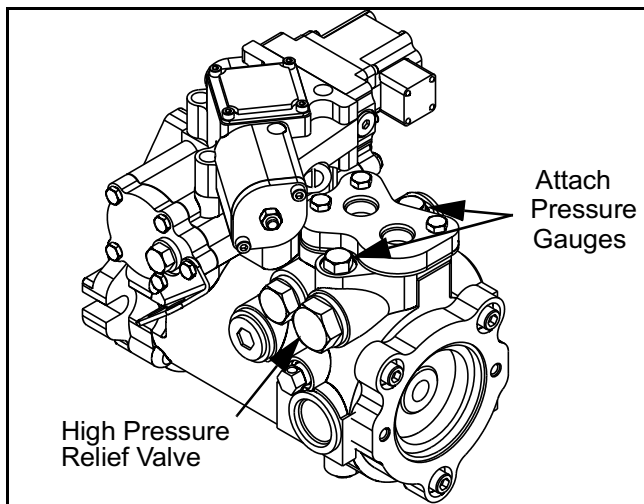

Figure 5 - 7 High Pressure Test Port/Relief Valve
- 3) Install pressure gauges at the high pressure ports on conveyor pump. (Figure 5 - 7)